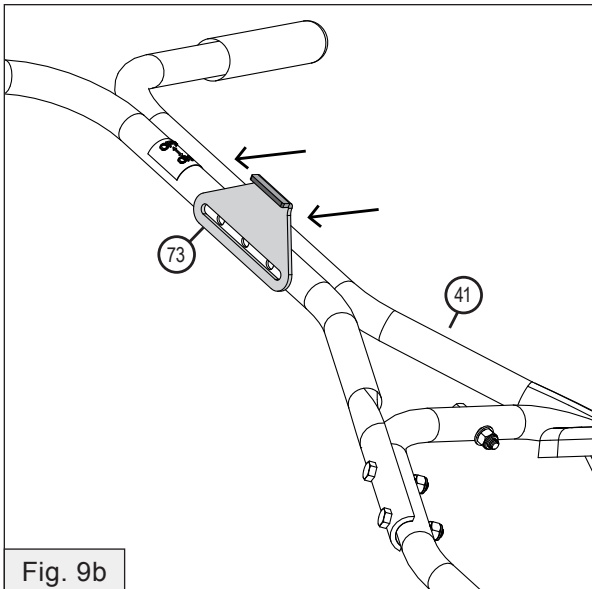

Fig. 9b
- The lip of the the Control Lever Stop (73) needs to be **POINTED OUT & AWAY** from the handle tubing. (See Fig 9b).